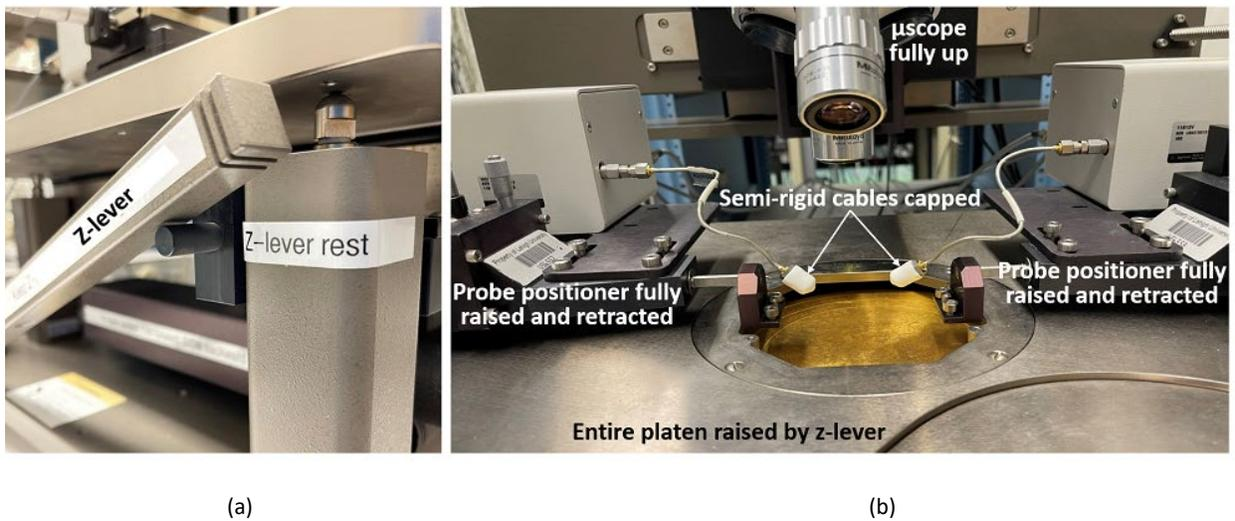

Fig. 2.1. Default setup with (a) z-lever propped up and (b) microscope and probe positioners raised and retracted.
- 2.3 **Make sure the tool is set up with the z-lever propped up on the rest, the microscope fully raised, the semiflexible cables protected by end caps, and the probe positioners fully raised and retracted (Fig. 2.1) by gently turning the z- and x- micrometers to their middle range around 4 (Fig. 2.2).** The probe positioners are mounted on a platen resembling a table top. The z-lever raises the entire platen up along the z-axis and separates the platen from the wafer chuck. The probes point at each other along the x-axis. The probes can be laterally moved along the y-axis to ensure that they point at each other.
- 6.1 Lift the z-lever if it is not already up and propped up on the rest [Fig. 2.1(a)]!